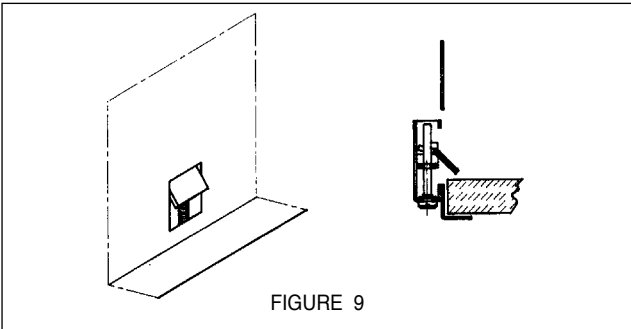

FIGURE 9
5. The Cristal attaches to the cabinet through a unique mounting system. Toggle arms illustrated in FIGURE 9 located on each side of the rangehood support the rangehood once it is inserted into the cabinet. The mounting arms require the cabinet bottom to be a minimum thickness to install properly. Measure the distance from the bottom edge of the cabinet to the floor of the cabinet. If this distance is less than 5/8", then the wood spacers (1 " x 1 " x 5") must be used under the toggle arms on both sides of the rangehood. Mounting arms adjust for cabinet bottom thickness between 5/8" to 2 1/8".